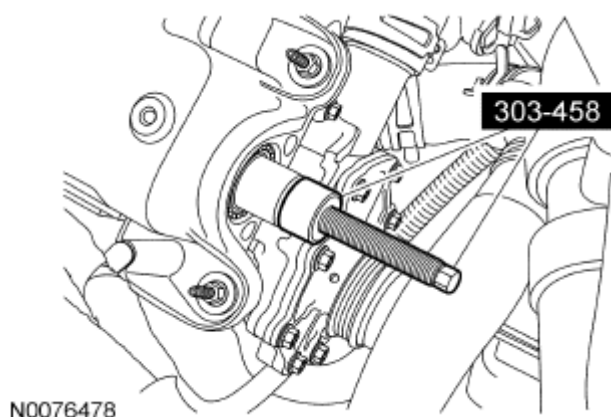

Fig. 355: Identifying Camshaft Pulley Installer Screw
NOTE: Failure to use the correct special tools, assembled as shown in the Fig. 355, will result in damage to the coolant pump pulley and/or special tools.
80. Install the Camshaft Pulley Installer in the camshaft as shown in the Fig. 355.